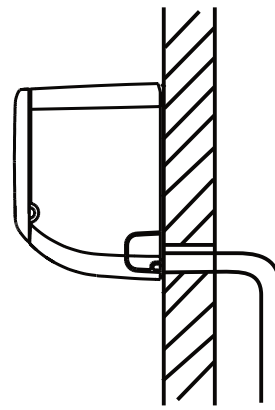

Fig. 7.2a
2. Using example **Fig. 7.2a** as a guide, make sure your drain pipe is run in a similar manner. The other examples in **Fig 7.2** represent things you should avoid when installing your drain pipe.
Make sure to arrange the drain hose correctly according to Fig. 7.2a.